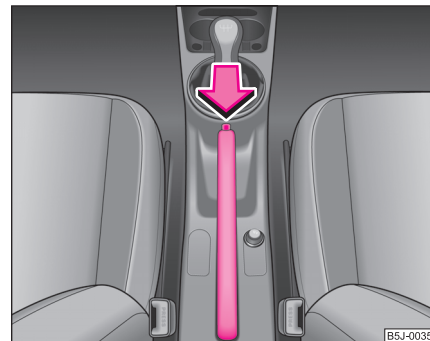

Fig. 91 Centre console: Handbrake
- Pull the handbrake lever up slightly **and at the same time** press in the locking button ⇒ fig. 91.